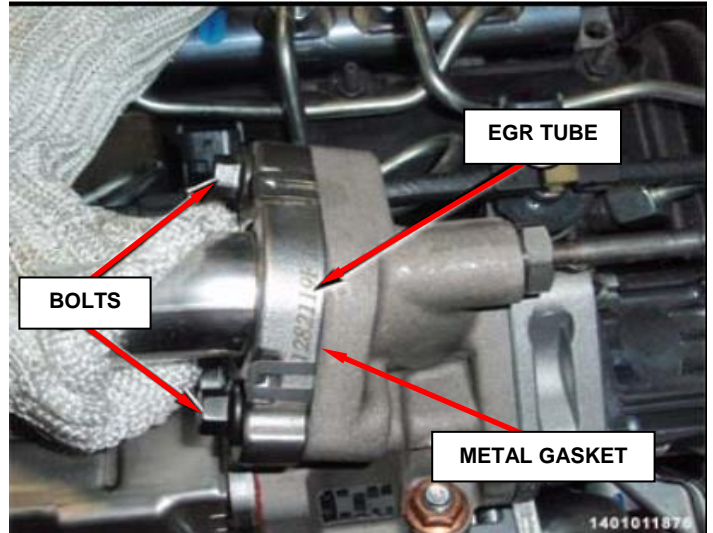

Figure 30 – EGR Tube
10. Remove the (2) EGR tube bolts (Figure 30).
12. Remove and discard the metal gasket (Figure 30).
31. Install a **NEW** EGR tube adapter pipe metal gasket (Figure 30).